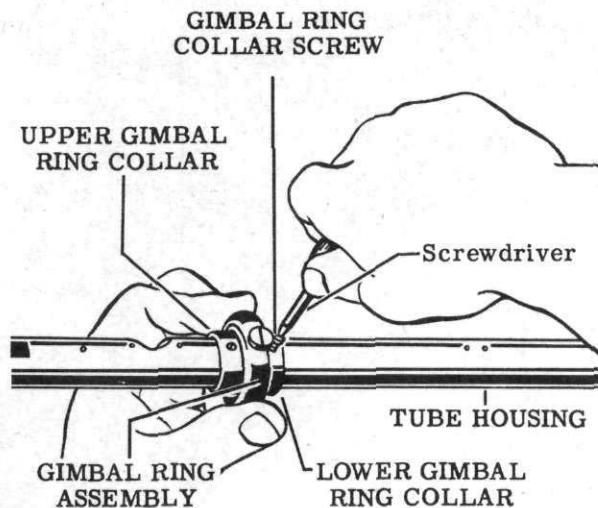

Figure 28
10. Place the tube housing in a horizontal position on the two support blocks, Tool No. 2. Tighten the three gimbal ring collar screws in each of the gimbal ring collars. Push the gimbal ring assembly against each collar as the screws are tightened to insure that the inner gimbal ring turns freely between the two collars. Wipe off any excess grease with a clean cloth. See Fig. 28.